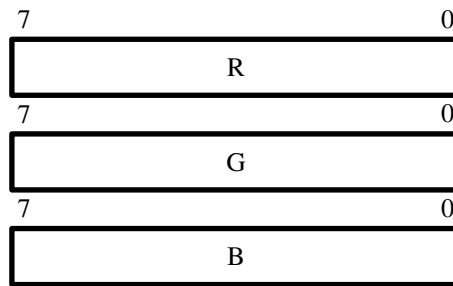

Figure 18. Bayer Pattern RGB Color Space.
- Bayer Pattern — This is a special case of the RGB color space where each pixel has a value for only one of the three colors. The pattern of the colors in the frame is shown in 17. Figure 18 shows to format of the bayer pattern data. This mode is defined as 8 bits per symbol and one symbol per beat.